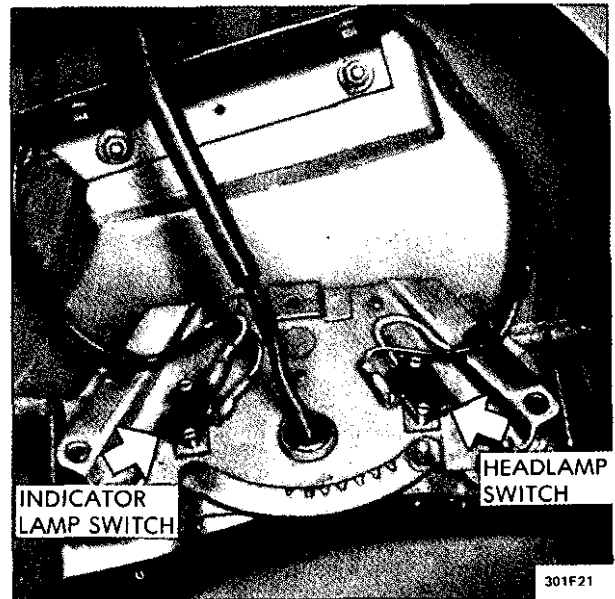

Figure 1F-21 Light Switch Positions
2. Remove switch from base plate. See Figure 1F-21.